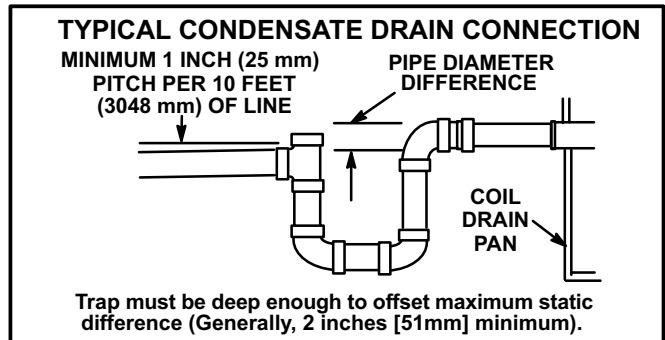

FIGURE 12
A 5 inch section of PVC pipe is provided with the unit. Cut the pipe in half and use it to route the auxiliary and main drains. Connect main condensate drain and route downward to an open drain or sump. Do not connect drain to a closed waste system. Refer to figure 12 for typical condensate trap configuration.
- 6 - Drains should be constructed in a manner to facilitate future cleaning or interfere with filter access. See figure 12.